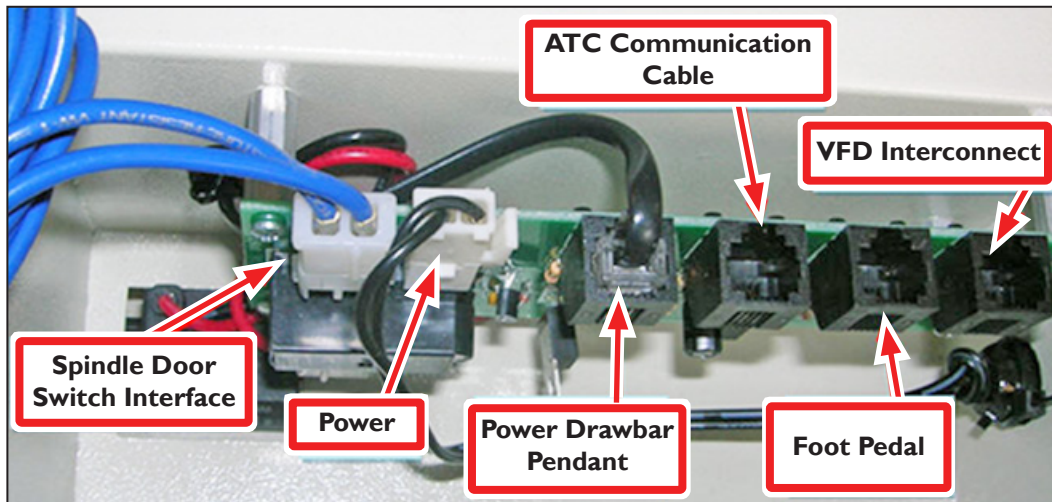

Figure 32
5. Plug the Foot Pedal Cable into the Foot Pedal slot on the power drawbar control board (see **Figure 32**).